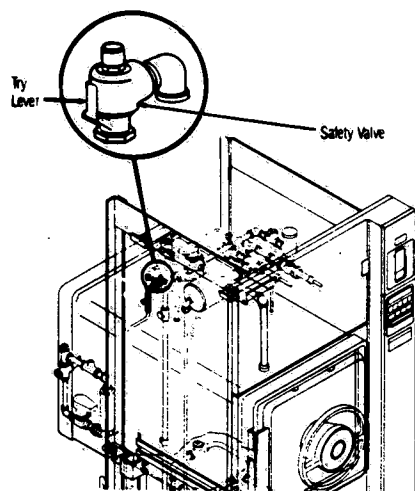
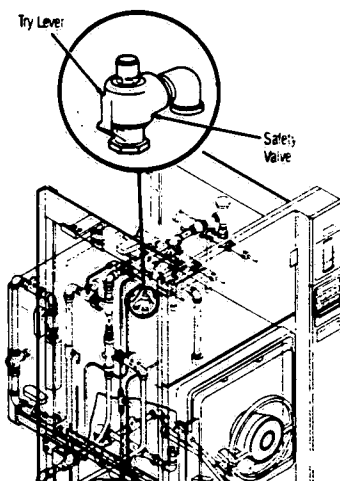

FIGURE 4-4 - Safety Valve - Gravity Unit
FIGURE 4-5 - Safety Valve - Vacumatic Unit
3. Check safety valves (Figure 4-4 - Gravity units; Figure 4-5 - Vac units) as follows: